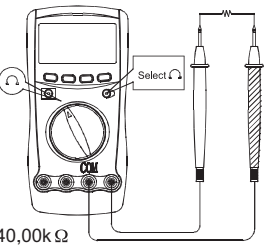

Figure 5
C.Measuring Resistance (see Figure 5)